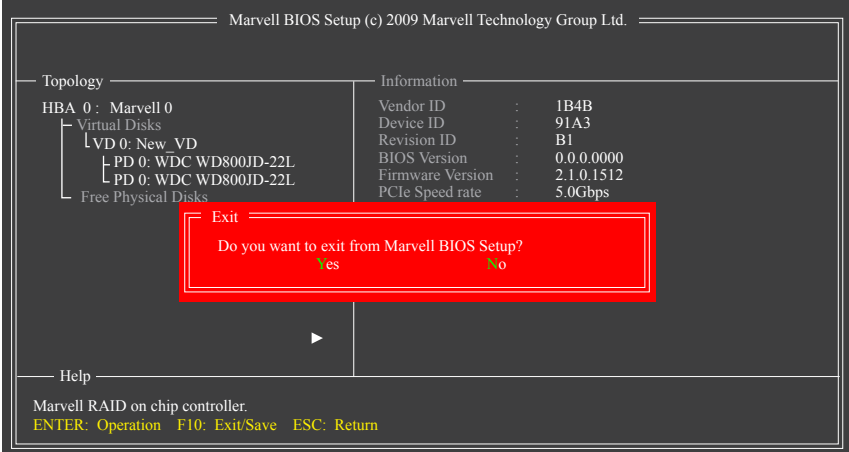

Figure 7
7. Save the Settings and Exit. After you complete the RAID configuration and before you exit the configuration screen, be sure to press <F10> in the main screen. Press <Y> to confirm or <N> to cancel (Figure 7).